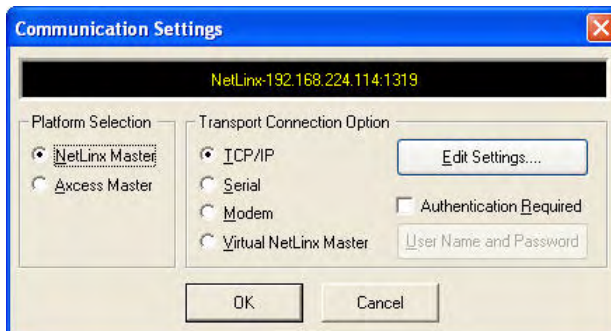

FIG. 39 NetLinx Studio - Communication Settings dialog
- b. Select **Communication Settings** to open the *Communication Settings* dialog (FIG. 39):